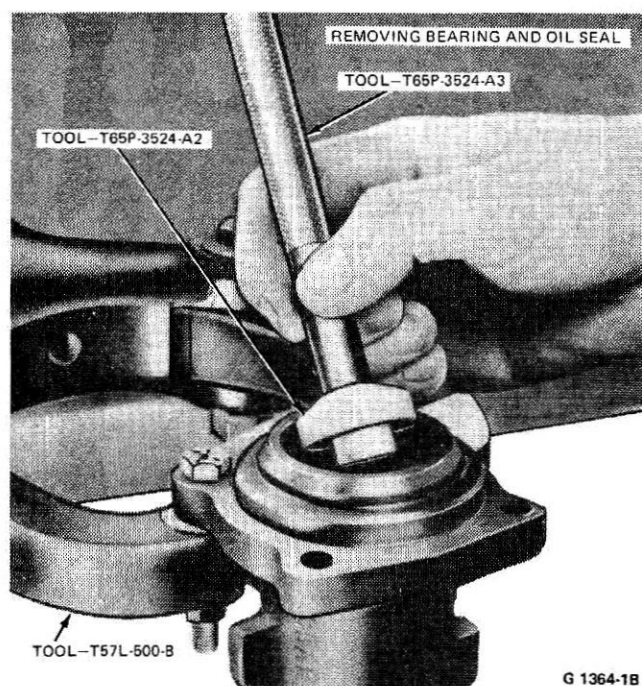

FIG. 10 Removing Bearing and Oil Seal
4. Insert Tool T65P-3524-A2 and A3 in the valve body assembly opposite the seal and gently tap the bearing and seal out of the housing (Fig. 10). Discard the seal. **Do not damage the valve bore in the housing when inserting and removing the tool.**